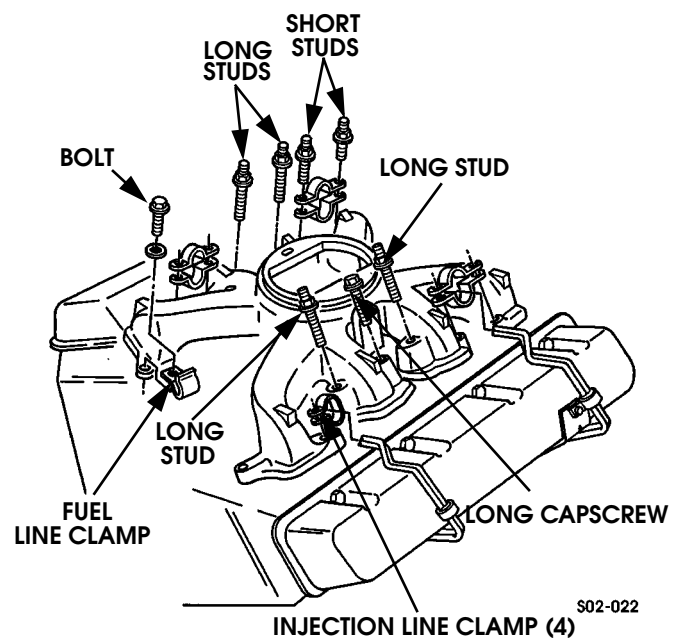

Figure 2-37: Intake Manifold Stud/Bolt Locations
9. Remove studs and bolts attaching intake manifold to cylinder heads (Figure 2-37).